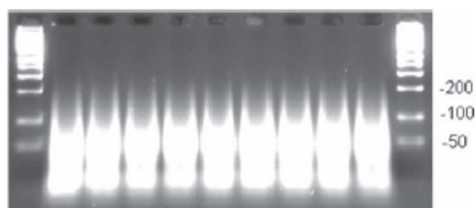

Figure 3. Typical example of fragmented PCR products run on 4% TBE agarose gel at 120 V for 30 min to 1 h. Average fragment size is < 180 bp.
25. Inspect the gel (example of gel below, Figure 3).